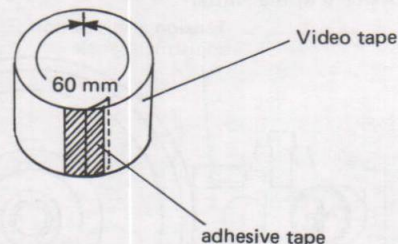

Figure 25
- ② Press the Playback key to activate the Playback mode, and then turn the power OFF.
- ③ Place the pinch roller pressure measurement tape (Fig. 25) between the pinch roller and capstan shaft.